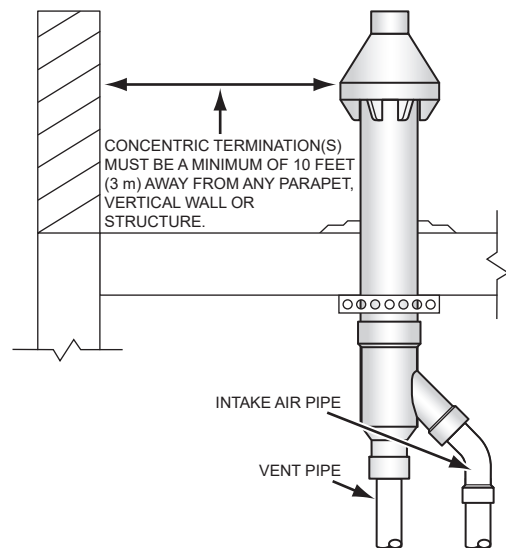

Figure 30. Concentric Termination - Flat Roof Clearance
- When installing a concentric termination vertically through a flat roof, the termination's vent cap must be a minimum of 10 feet (3 m) away from any parapet, vertical wall or structure as shown in **Figure 30**.